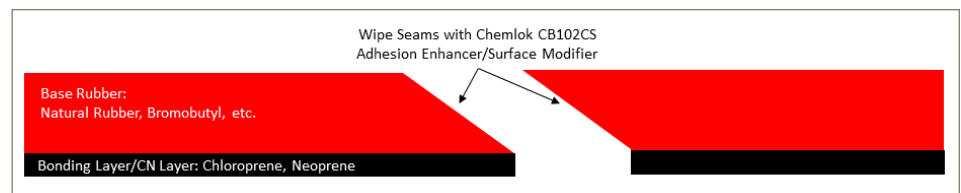

Figure 2. Surface Preparation of Vulcanized Rubber with Bonding Layer
Many vulcanized rubber sheets utilize a polar bonding layer to improve bonding to the substrate (see Figure 2). This is common with halogenated/bromated compounds that are difficult to bond.
- Seams, and mating skives, where the bonding layer is not present should always be treated with Chemlok CB102CS adhesion enhancer/surface modifier with a rag wipe (see Figure 2). DO NOT SPRAY.